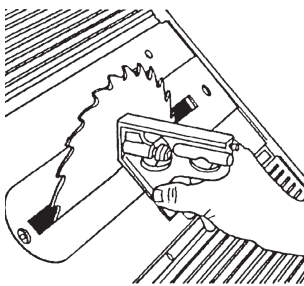

Figure 43
- Remove the bar from the Combination Square and place the square against the Saw Blade and the Worktable, as shown in Figure 43. Make sure the Combination Square doesn't rest on the Table Insert.